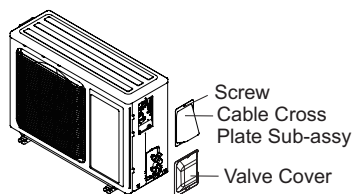

Fig.21
- (1) Remove the screw on the right cable and valve cover of outdoor unit and then remove the cable cross plate sub-assy and valve cover.(As show in Fig.21)